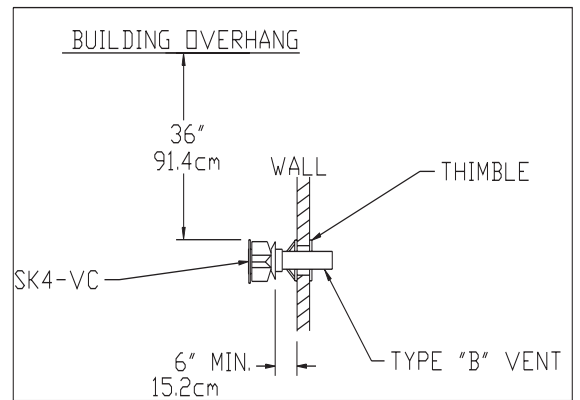

Figure 2.8.2
- \* Horizontal venting must maintain a minimum distance from the vent termination to the sidewall. See Figure 2.8.2 through 2.8.4